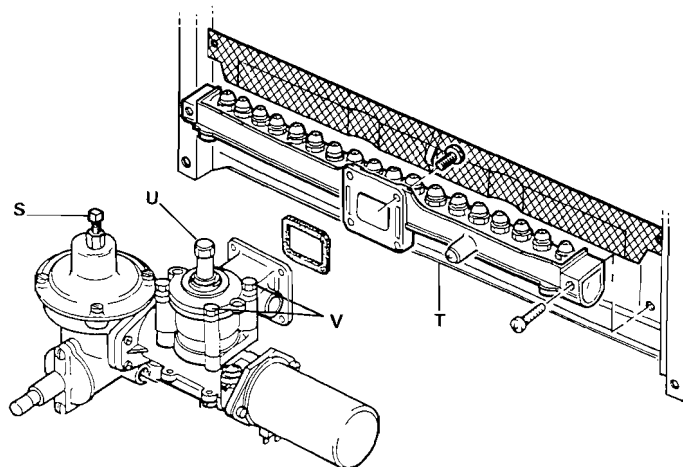

Fig. 25
6.8. Unscrew the 4 screws 'V' of the modulating valve (Fig. 25).